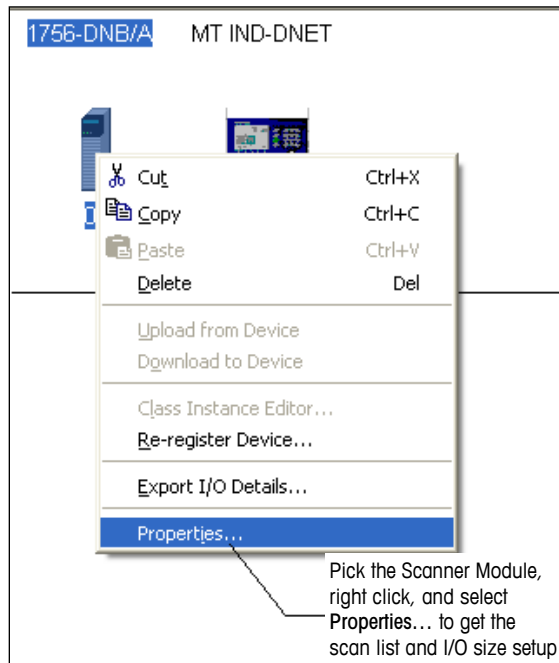

Figure 5-16: Accessing Scanner Properties
5. Once the scanner has browsed the entire network, add IND Terminal to the 1756-DNB/A's scanlist by right-clicking on the scanner icon in the Graph window (note the tab at the bottom of Figure 5-16), and choosing **Properties...**